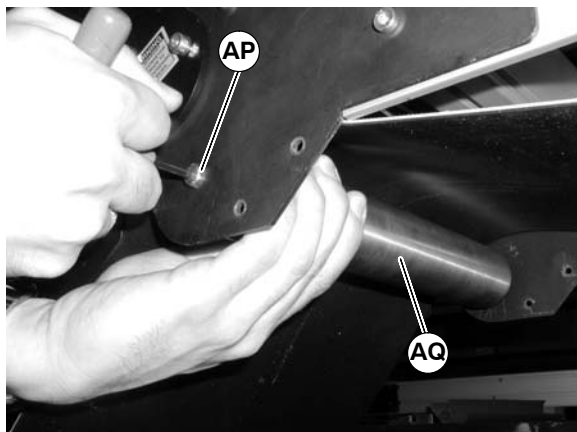

Figure 25
6. Push in hex posts (AP of Figure 25) and remove pulley (AQ).